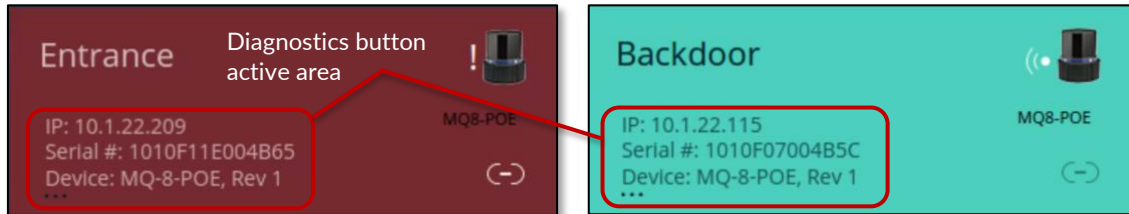

Figure 28. Dashboard Tab: Diagnostics (...) Button
3. Click the connected **Malfunctioning** sensor tile **Diagnostics** (...) button to view the diagnostics panel, which reveals any error codes reported by the sensor. See Figure 28. Dashboard Tab: Diagnostics \(...\) Button and Figure 30. Dashboard Tab: Diagnostics Panel Sensor Error.
To view a particular sensor diagnostics data. See Figure 28. Dashboard Tab: Diagnostics \(...\) Button and Figure 30. Dashboard Tab: Diagnostics Panel Sensor Error.